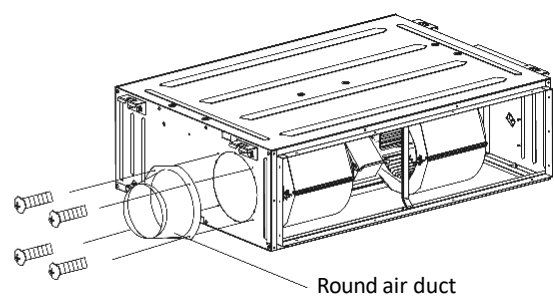

Fig. 4.4.7
② Install the round flange so that the fresh air duct can be connected as shown in Fig. 4.4.7.
③ Both the air duct and the round flange must be sealed and thermally insulated.
④ Fresh air must be treated through the air filter.